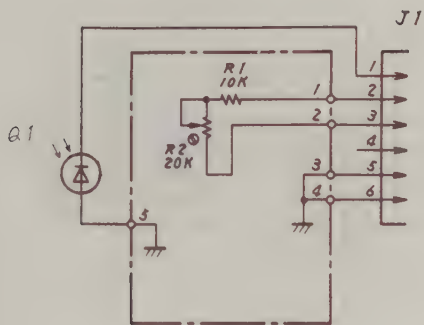

Fig. 6-9 Circuit Diagram of
- Fig. 6-9 : Circuit Diagram of MA97B Optical Power Sensor.